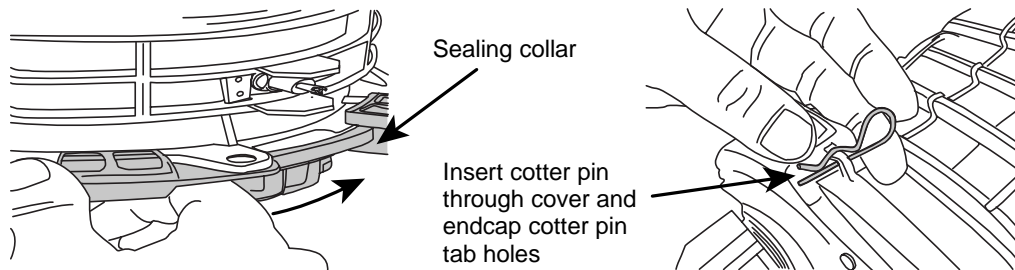

Figure 16
3. Rotate the cover counter clockwise seating it on the O-ring inside the endcap. Rotate the sealing collar of the endcap clockwise to seal cover and endcap together (Figure 16).
**Note:** The cotter pin tab holes should be in line to seat the cotter pin, ensuring that the closure is secure prior to pressure testing (Figure 16).